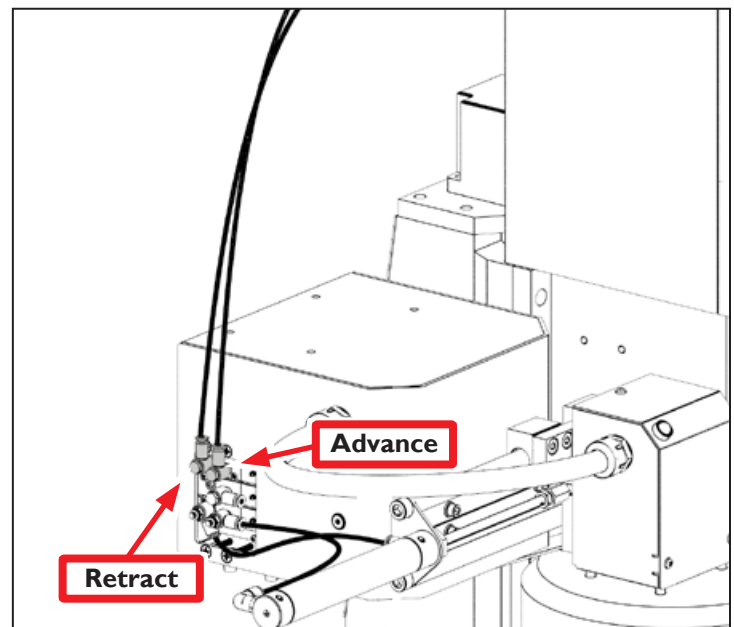

Figure 12
- a. From the bottom push-to-connect elbow on the power drawbar cylinder, connect the Retract airline to the left push-to-connect elbow on the ATC's top solenoid (see **Figure 12**).
- b. From the T-connector on the power drawbar cylinder, connect the Advance airline to the right push-to-connect elbow on the ATC's top solenoid (see **Figure 12**).